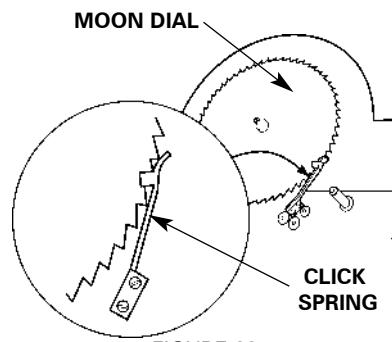

FIGURE 22
6. Is the click spring on the back of the dial in the correct position? (See Fig 22)
If you still are unable to rotate the moon dial, the click spring may be out of alignment. Not all moon dials use a click spring however you can quickly identify if your clock does. You can locate the click spring on the backside of the clock dial by looking through the side access panels, side hinged doors or through the removable back access panel. (See figure 22). Use your finger to pull the click spring approximately 1/2" back away from the saw tooth moon dial and then release. The click spring and dial should snap into proper alignment. If the click spring is in its proper location and you still feel resistance when trying to advance the moon dial **DO NOT FORCE IT**.